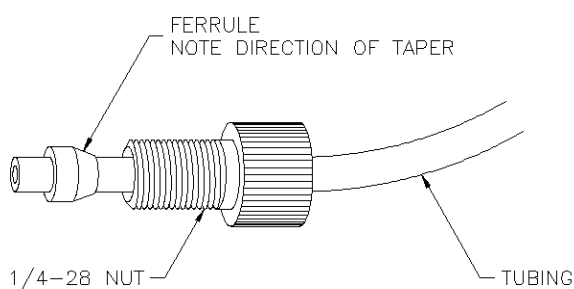

Figure 2-2. Configuration of 1/4-28 Nut, Ferrule and Tubing
- b) Push the tubing through a PEEK 1/8" male 1/4-28 fitting and slide a ferrule over the tubing end as shown in Figure 2-2.